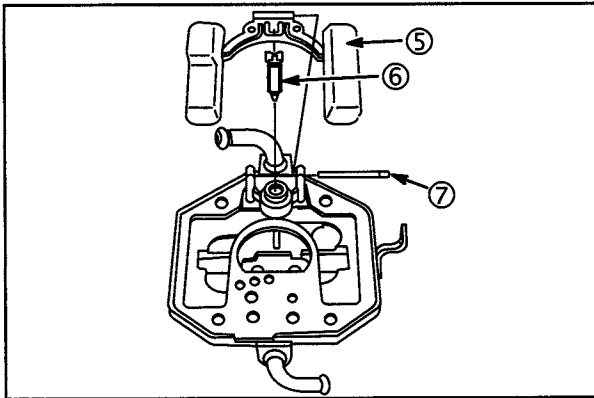

Fig. 99
3. Remove float (5) and fuel inlet needle (6), **Fig. 99.**
**NOTE:** Float hinge pin (7) is swaged on one end. Drive hinge pin out from side opposite swage.